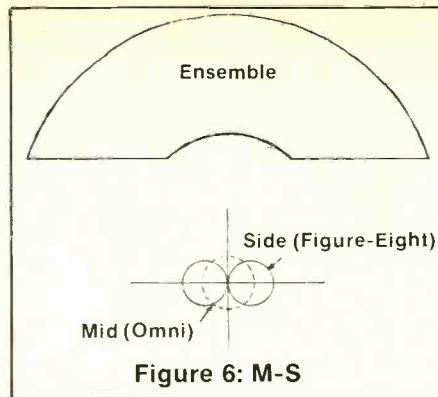

Figure 6: M-S
3. A third traditional approach is the M-S (mid-side) technique, shown in Figure 6, which uses a figure-eight mounted with the off-axis toward the ensemble, and an omni or cardioid placed coincidentally. By using an electronic matrix device, such as the unit made by Audio Engineering Associates⁸, or by matrixing the signals through a mixing console⁹, one can electronically create Blumlein and X-Y patterns, as well as